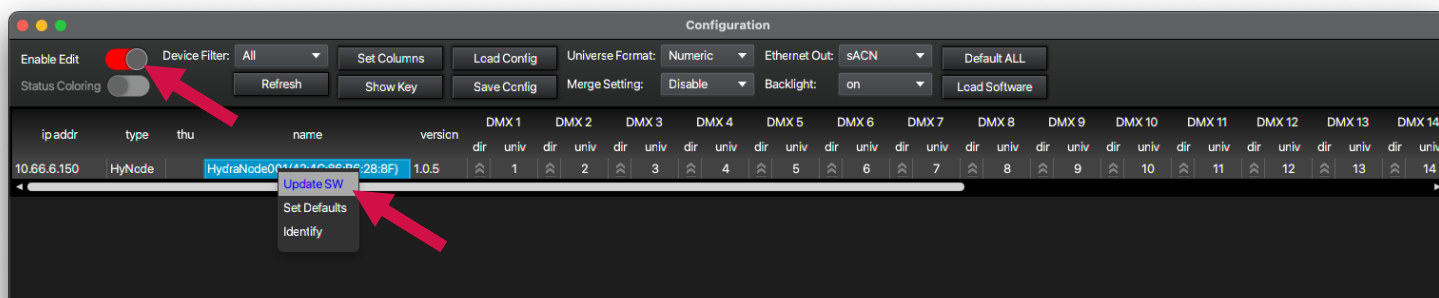

Figure 7: Enable Edit and Update SW
- Step 5. Right-click on the device name and select Update SW; see Figure 7.